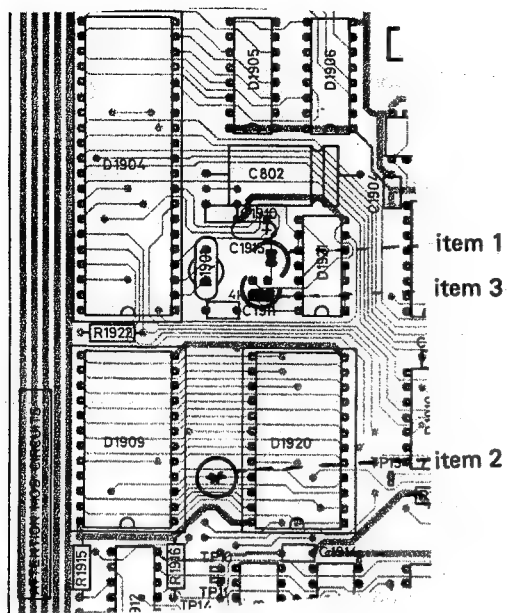
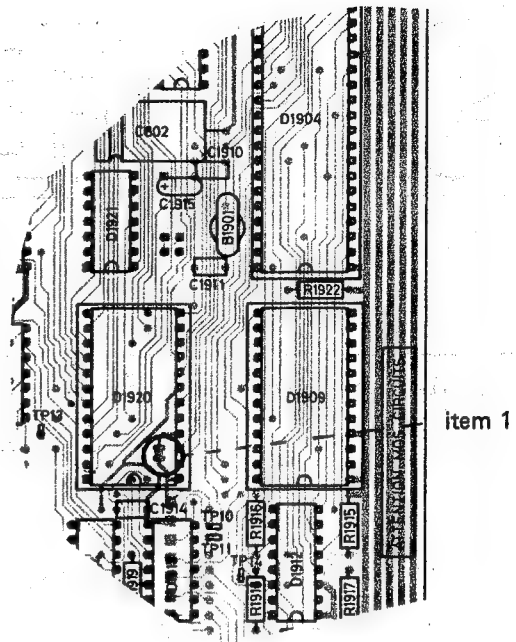

Fig. 1. Main p.c.b. lay-out, component side
Fig. 2. Main p.c.b. lay-out, conductor side
- Unsolder the two soldering spots (see fig 1 and fig 2 item 1)
- Repair the track interruption (see fig 1 item 2)
- Place a jumper. Ordering code 5322 263 64007 (see fig 1 item 3)